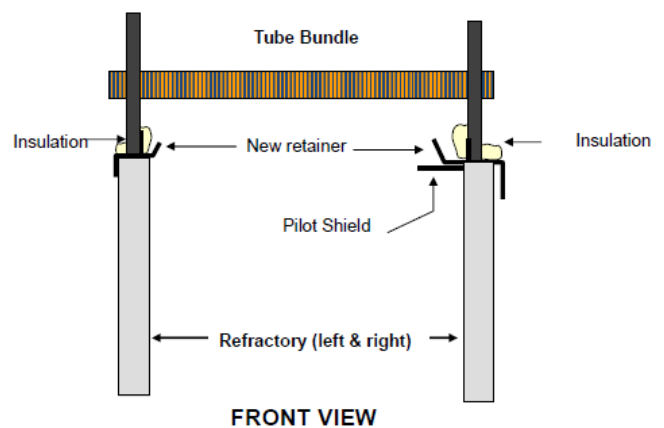

Figure 16. Install Heat Exchanger
26. Carefully lay the heat exchanger in place so as not to damage the insulation (See **Figure 16**).